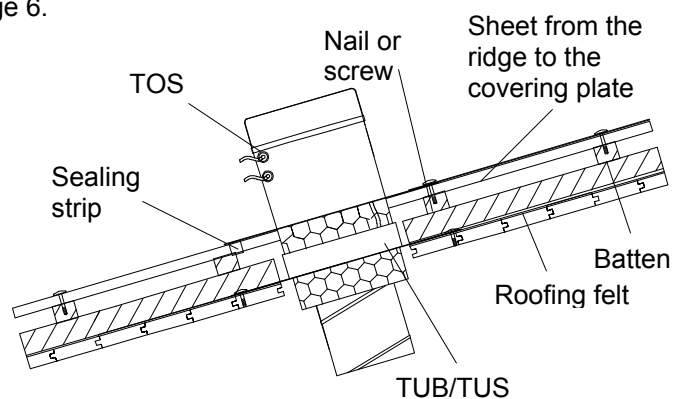

Fig. 7
2. Attach the TOS covering plate to the roof cladding or batten with nails or screws. fig. 7